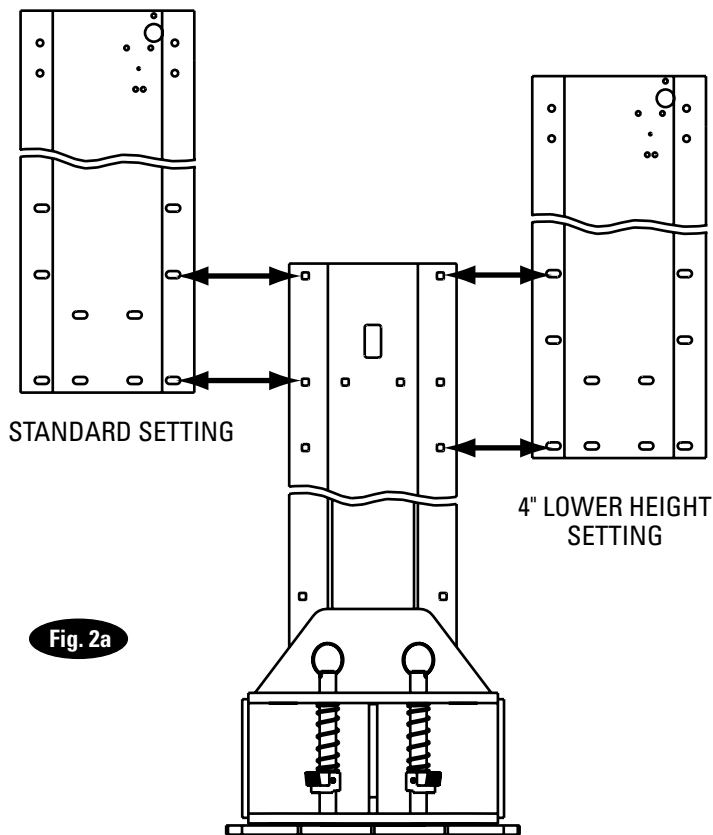

Fig. 2a
3. Column Extensions: Before standing columns upright, install the column extensions using (12) 3/8"-16NC x 3/4" Carriage HHCS and Flanged Locknuts, Fig. 3, and Fig. 2a.
1. Install Pc. (2) with hose clamps, on power unit column side connecting it to the cylinder (1) first.
2. Install Pc. (3) with hose clamps starting at left column cylinder (5) and working toward the right column. All excess hose should be at bends & inside overhead assembly. **DO NOT try to use optional column extension mounting holes, Fig. 2a, when attaching hose clamps. They will NOT work. Use lower set of holes.**
3. Install Pc. (4) into power unit.
4. Connect Pc. (2) & Pc. (3) to Tee (4).